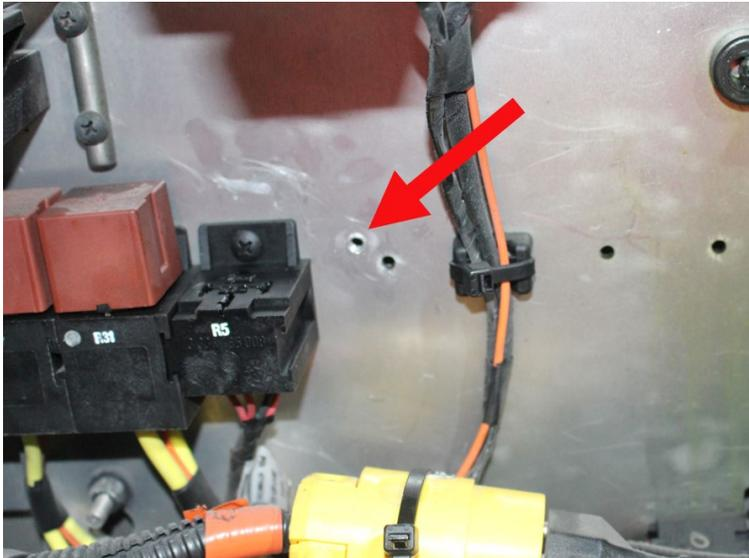
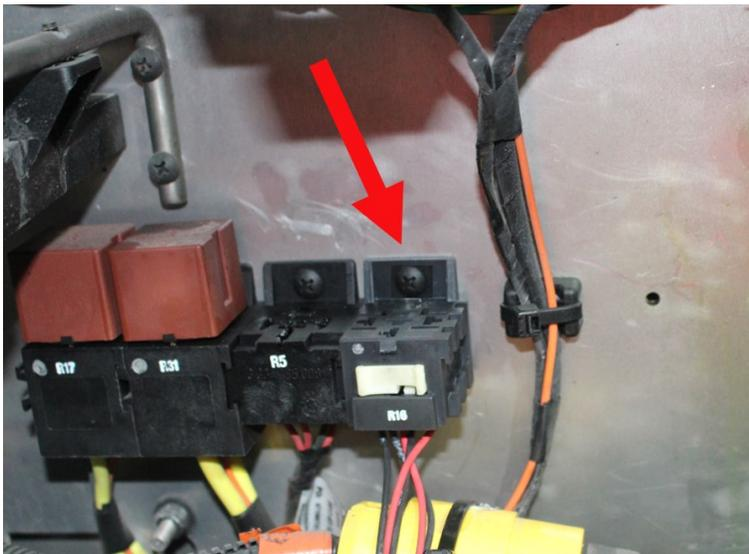

FIGURE 38: RELAY BASE INSTALLATION
FIGURE 39: RELAY BASE & R16 ONCE INSTALLED
1. Install the relay base 561183 in the main power compartment. To do so, first, drill a 1/8 hole through the bulkhead. Secure the relay base using screw 500799 (Figure 38 & Figure 39).